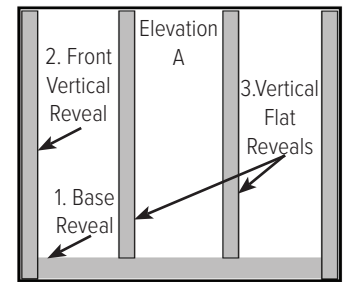

Figure 2.4.4
2.4.4 Be sure to level the reveal and apply light pressure to distribute the caulking evenly as shown in Figure 2.4.4.